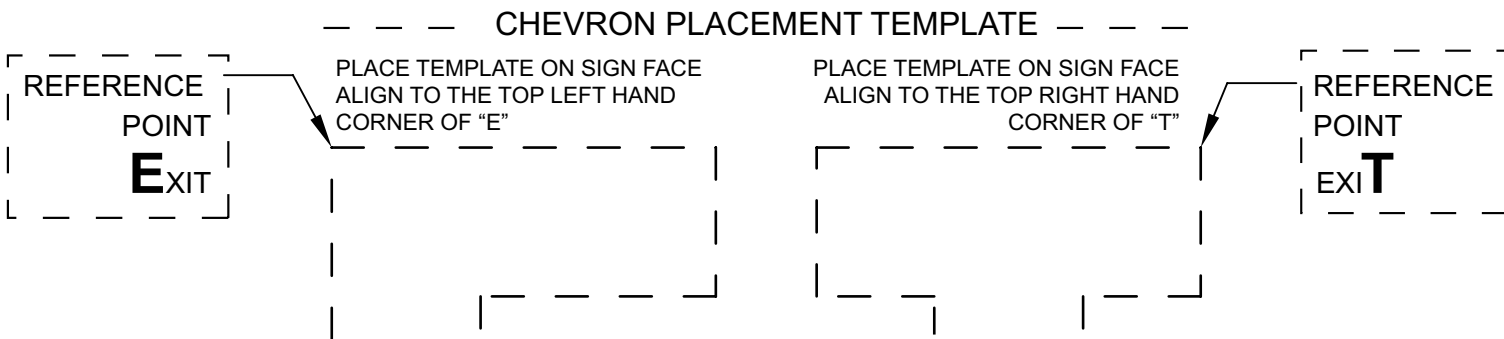

Figure 1
- a. Exit sign internal wiring is already pulled into the canopy and all wires are labelled. Connect AC supply per diagram provided (Figure 1) . Insulate unused wire! **CAUTION!** - Failure to insulate unused wire may result in a shock hazard or unsafe condition as well as equipment failure.
1. For self-powered models, plug the battery into the circuit board per (Figure 1) self-powered sign.